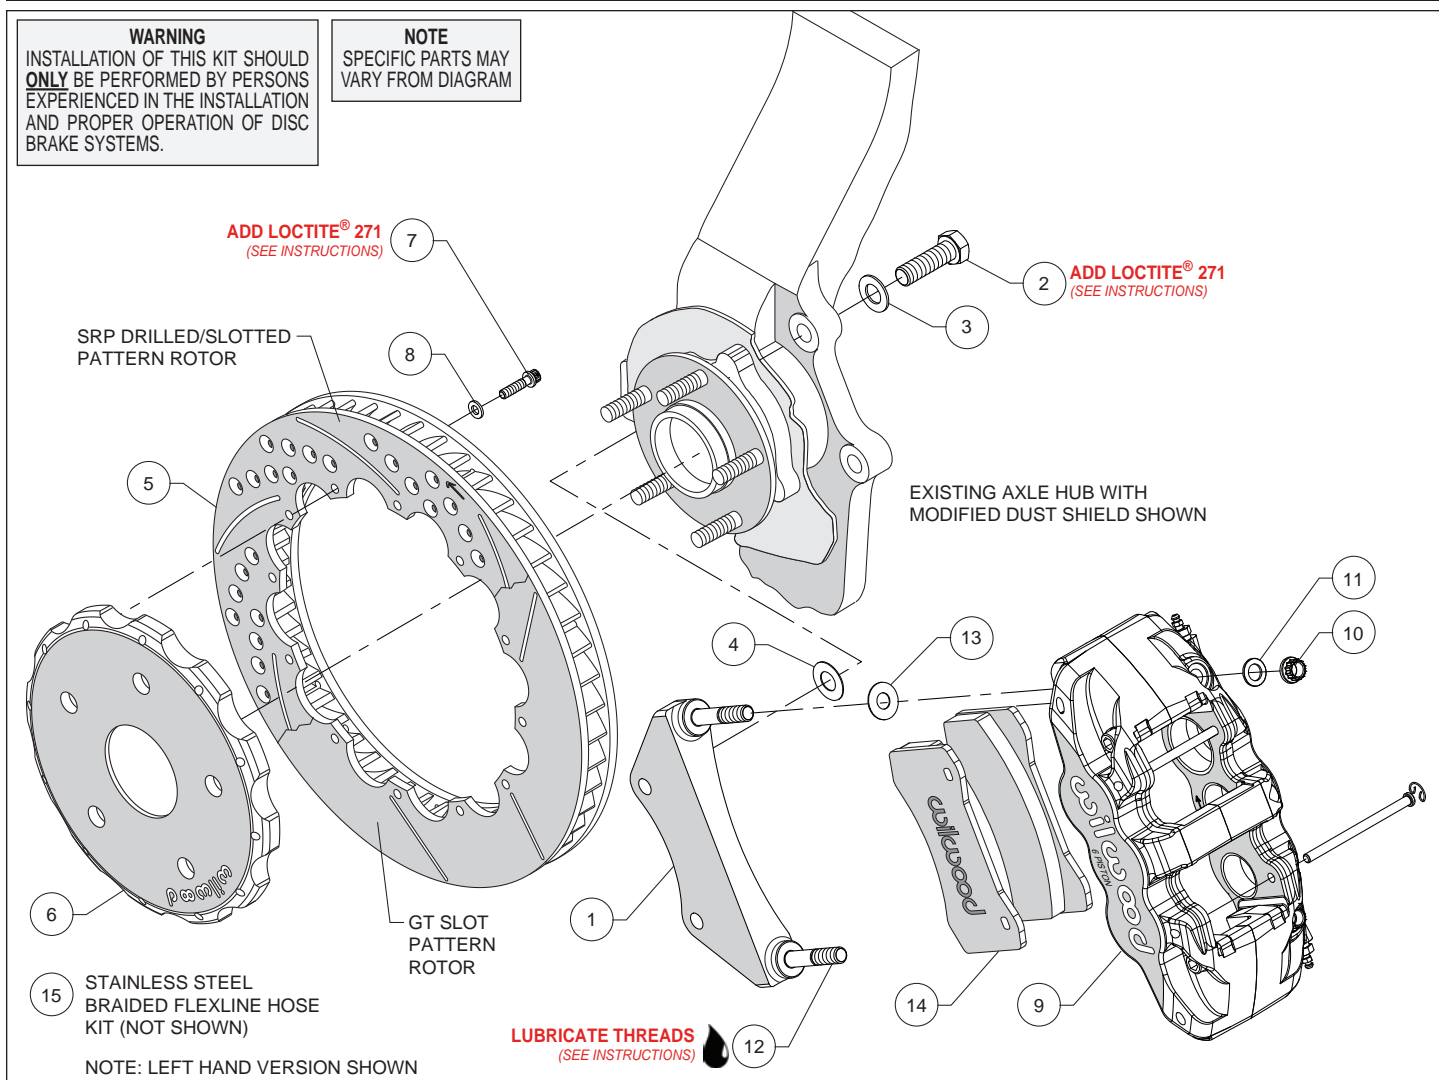
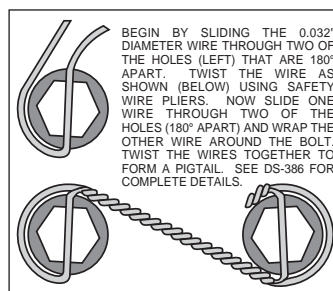

Figure 1. Typical Installation Configuration
Figure 3. Safety Wire Diagram
**Assembly Instructions** (numbers in parenthesis refer to the parts list and Figure 1 on the preceding pages):
- The caliper mount bracket (1) should initially be installed with clean, dry threads on the mounting bolts. Orient the bracket as shown in Figure 1 and Photo 2, and install using bolts (2) and washers (3). Initially place one .029 thick shim (4) on each bolt between the bracket and upright, Figure 1. Temporarily tighten the mounting bolts. **NOTE:** The bracket must fit squarely against the mounting points on the upright. Inspect for interference from casting irregularities, machining ridges, burrs, etc. Later, after the caliper alignment has been checked, the mount bolts will be secured using red *Loctite*® 271.
- Orient the rotor (5) and the hat (6) as shown in Figure 1 and Photo 3. Attach rotor to hat using bolts (7) and washers (8). Using an alternating sequence, apply red *Loctite*® 271 to the threads, and torque to 155 **in-lbs**. For an added measure of security, the bolts may be safety wired using standard 0.032 inch diameter stainless steel safety wire as shown in Figure 3. Please refer to Wilwood's data sheet DS-386 (available at [www.wilwood.com/Pdf/DataSheets/ds386.pdf](http://www.wilwood.com/Pdf/DataSheets/ds386.pdf)) for complete safety wire installation instructions.
- NOTE:** This kit contains distinct right and left hand calipers that must be mounted in a specific direction, as described below. Lubricate the caliper mounting studs (12) with lightweight oil. Initially place one .030" thick shim (13) on each stud between the caliper and the bracket, as shown in Figure 1 and Photo 4. Mount the caliper (9) onto the bracket (1) using lock nuts (10) and washers (11), Figure 1. Ensure that the caliper is mounted so the largest pistons are at the rotor exit end of the caliper, in relation to the direction of rotor rotation. Temporarily tighten the lock nuts and view the rotor through the top opening of the caliper. The rotor should be centered in the caliper, Photo 5. If not, adjust by adding or subtracting shims (4) between the bracket and the upright. Always use the same amount of shims on each of the two mounting bolts. Once the caliper alignment is correct, remove the bracket mounting bolts (2) one at a time, apply red *Loctite*® 271 to the threads, and torque to 77 ft-lbs.
- Remove the two pad retaining pins from the caliper (9) by carefully popping out the pin retaining clips and sliding out the pins. Insert the brake pads (14) into the caliper from the bottom, Figure 1 and Photo 6. With the friction material facing the rotor, secure the brake pads in place with the pad retaining pins and clips, Photo 7. Reinstall the caliper (9) onto the caliper mounting bracket (1) and temporarily tighten the lock nuts (10). Check that the top of the brake pad is flush with the outside diameter of the rotor, Photo 8. If not, adjust by adding or subtracting shims (13) between the caliper and the bracket. After the caliper pad height is set, torque the caliper lock nuts (10) to 47 ft-lb.